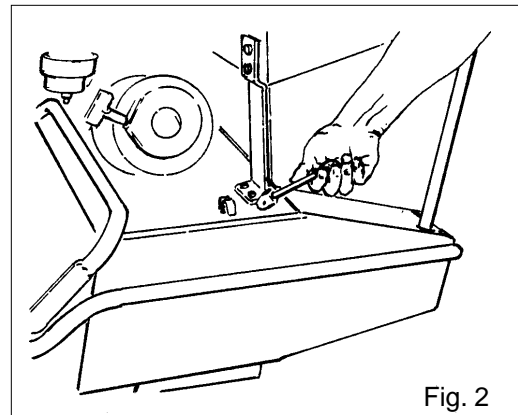

Fig. 2
1. Adjust the main broom to correct sweeping* by rotating broom adjusting lever - clockwise to raise, counterclockwise to lower. (See Fig. 2)
The main broom should be periodically readjusted as needed to compensate for wear. Use the broom-adjusting lever to accomplish this. rotate counterclockwise to lower and clockwise to raise. (See Fig. 2, page 6)